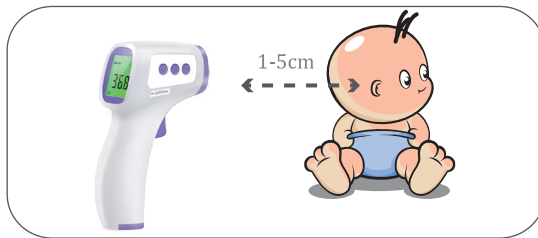

Figure 3: Align behind the ears to measurement
- If for some reason the low forehead temperature measurement can try to align behind the ears. See Figure 3.